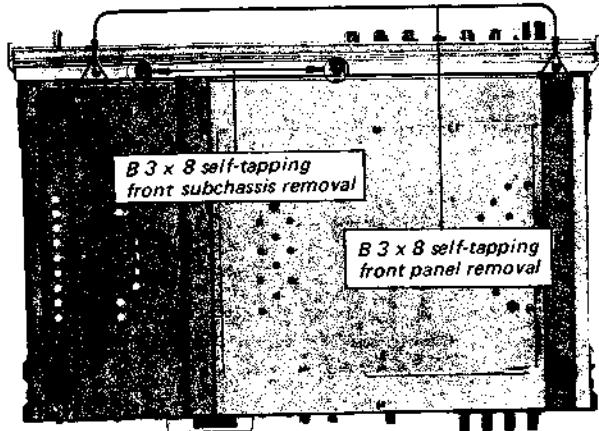

Fig. 2-1 Bottom view
2. Remove the two screws from the bottom and one screw at both sides as shown in Fig. 2-1 and 2-2. This frees front panel.
1. Remove the two screws from front bottom of the chassis shown in Fig. 2-1.